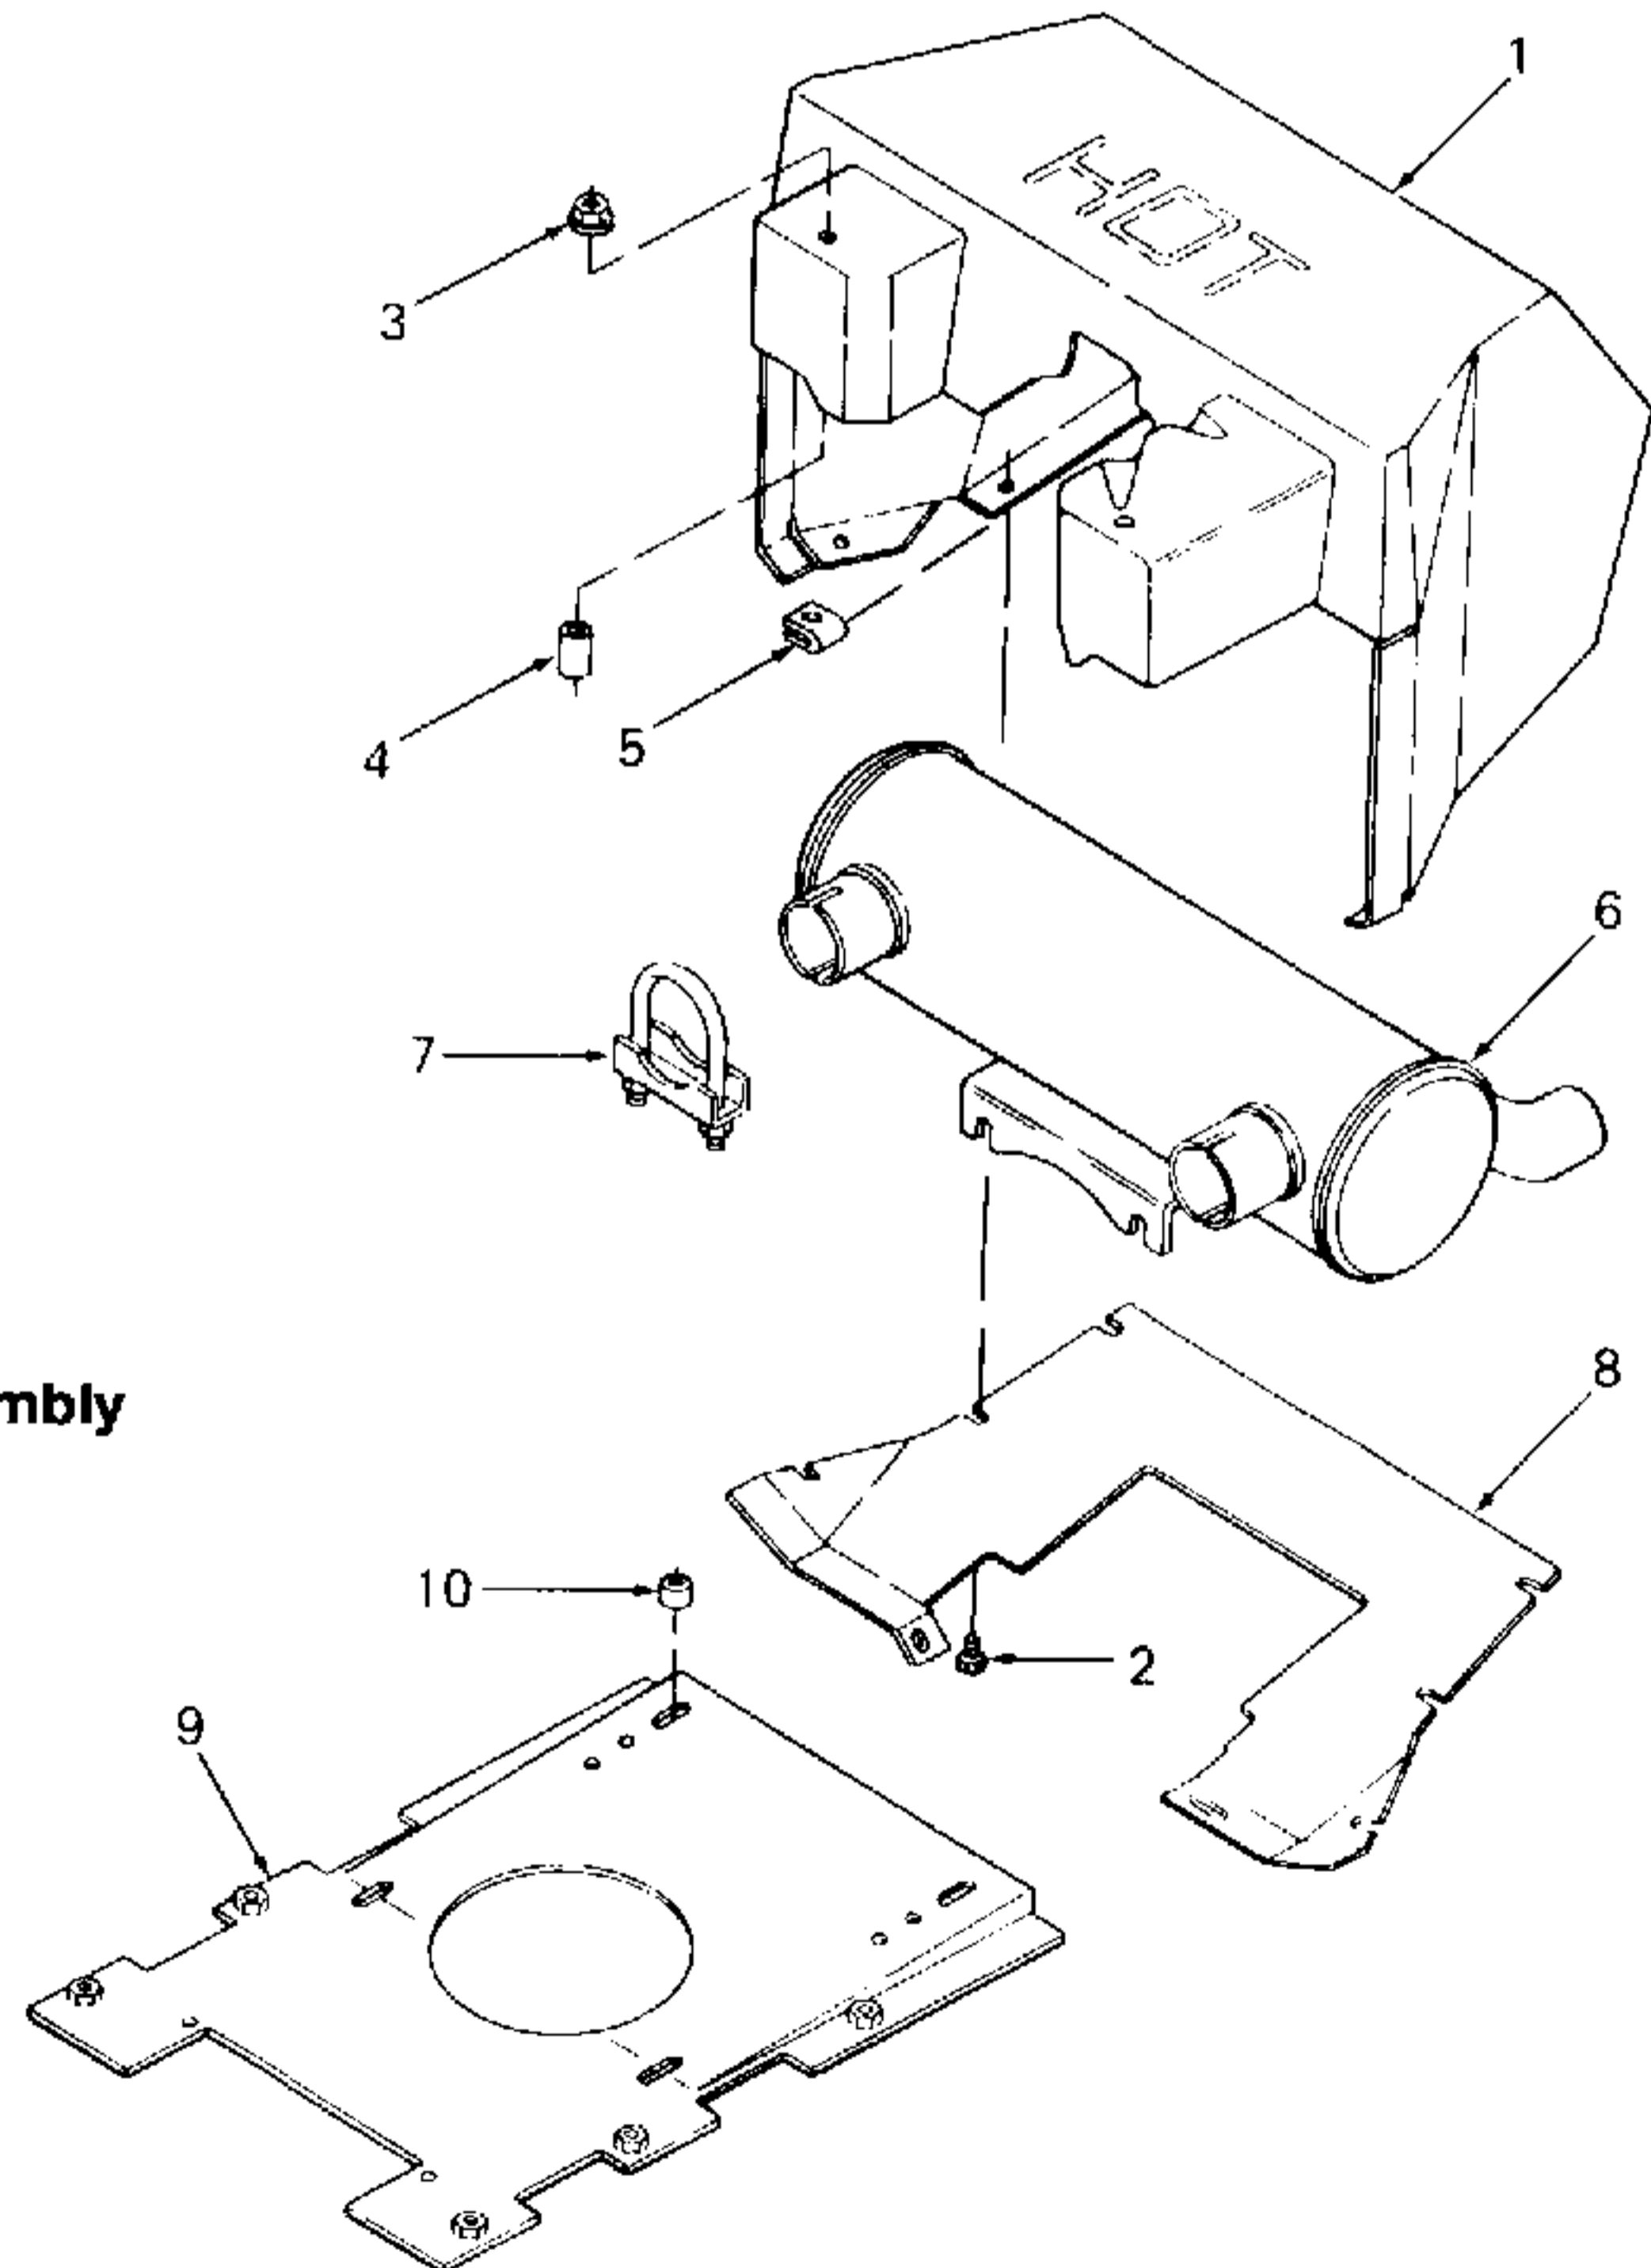

Figure 5-102. Engine Mounting, Muffler and Air Duct (Models 1535, 1541, 1860, 1862, 1882 and 2082).
2. Remove top air duct (1, Figure 5-102) by removing hex head screws (2) and hex flange lock nuts (3).
3. Remove spacer (4) and speed nut (5).
4. Remove muffler (6) by removing muffler clamp (7).
5. Remove bottom cooling duct (8).
6. Remove engine mounting plate assembly (9) and spacers (10) after the engine has been removed per paragraph 5-65.2.